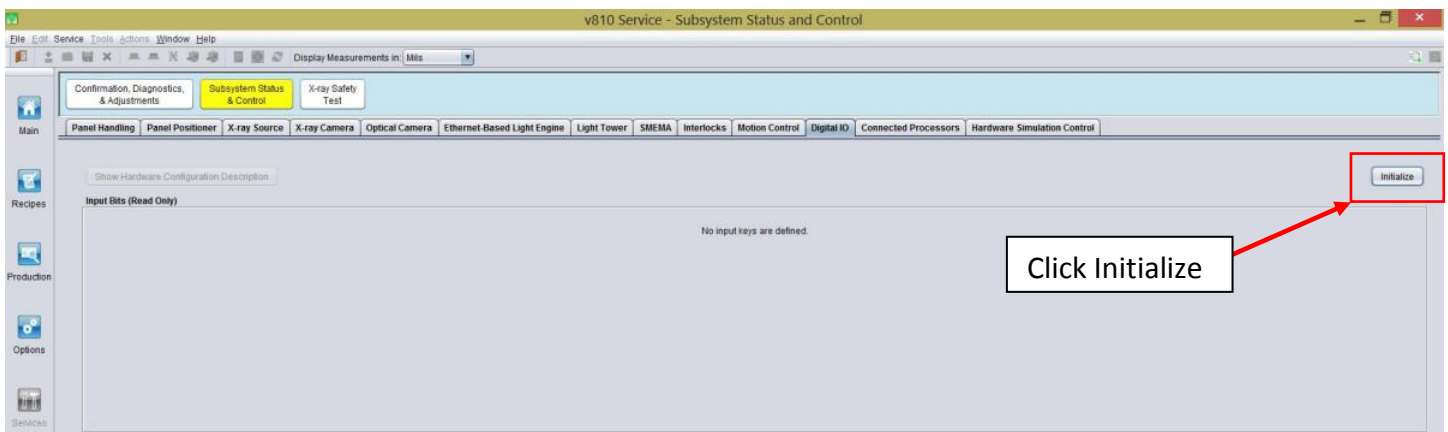

Figure 24 Digital IO
39. Open the V810 software. Go to the Services->Subsystem Status & Control-> Digital IO tab and Click Initialize as shown in Figure 24.